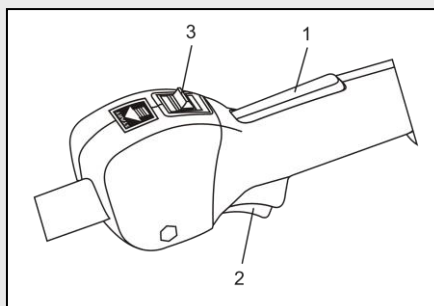

Fig. 3
1. Squeeze and hold the lock-off switch (1) with the palm of your hand (Fig 3).
2. While squeezing the lock-off switch, squeeze the trigger switch (2).